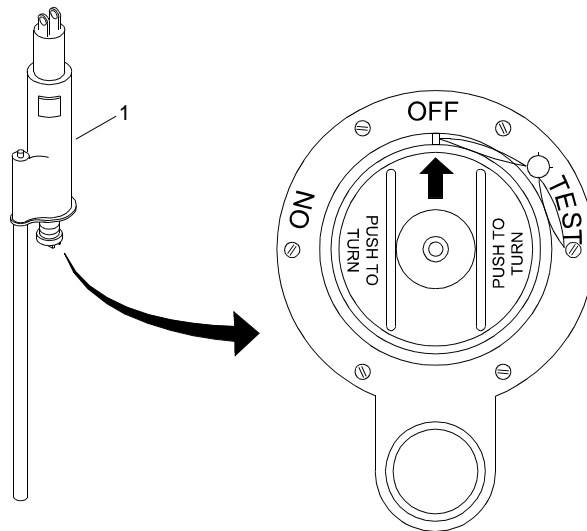

Figure 11. Search and Rescue Transponder (SART) Location
The Search and Rescue Transponder (SART) (figure 11, item 1) is a battery powered transponder used in an emergency by survivors of a sinking vessel. The SART must be mounted in the lifeboat one meter above the sea. The signal from the SART is detected by a 9 GHz radar at a range of 5–7 miles using the ships radar. Aircraft radar can receive the SART signal flying at 3,000 ft at up to 40 nautical miles. Once activated, the SART will rebroadcast a very strong response to any interrogating radar. At the same time, a line of 12 dots will appear on the search radar screen, radiating outwards from the position of the SART. Once the search vessel or aircraft has approached within one nautical mile of the SART, these dots widen to eventually form a series of concentric circles around the position of the SART. The SART has a built-in test capability and should be tested monthly. Two SARTs are installed on the vessel.